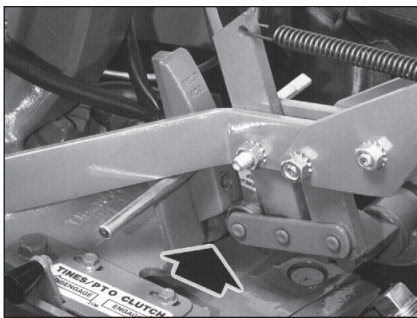

Figure 5-15: With Drive Lever in FORWARD position, clutch roller should be engaged slightly beneath the adjustment block.
4. Place the Wheels/Tines/PTO Drive Lever in FORWARD position. The arms of the clutch control yoke will be resting on the belt adjustment tool and the clutch roller should be engaged slightly beneath the adjustment block (Figure 5-15).